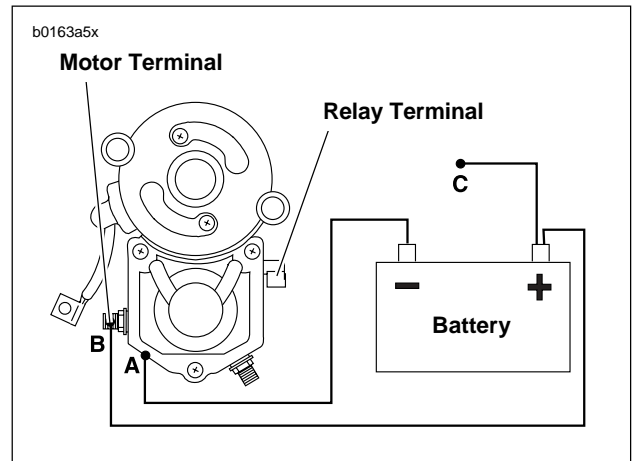

Figure 5-14. Return Test
1. See Figure 5-14. With test leads still connected in the manner specified at the end of the previous **SOLENOID HOLD-IN TEST**, disconnect solenoid relay terminal/positive battery post test lead (C) at either end.